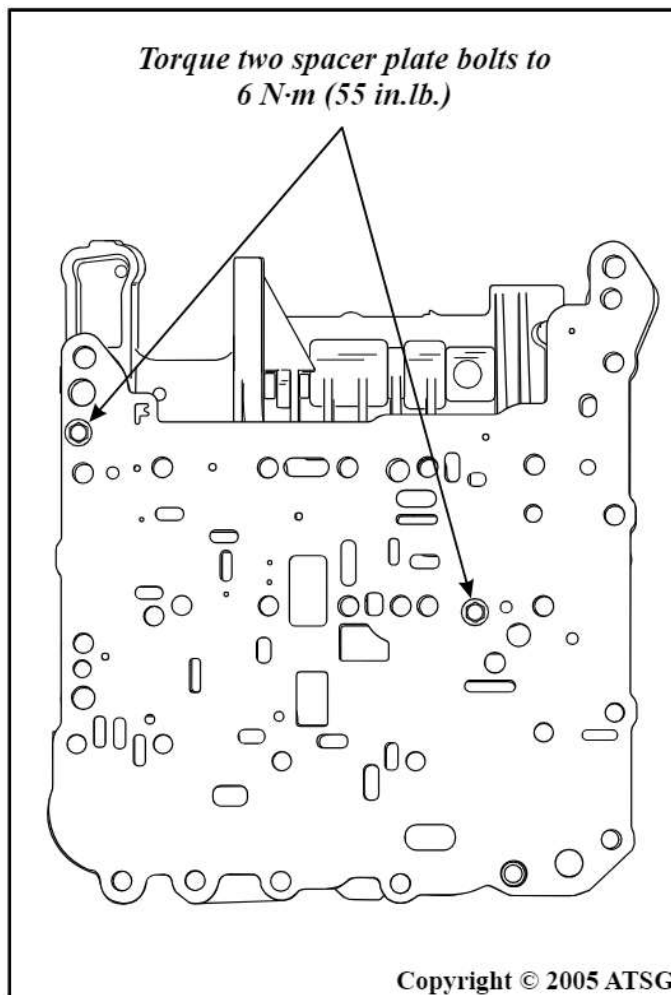

Figure 147
24. Install the main valve body spacer plate and bolts, as shown in Figure 147. Torque spacer plate bolts to 6 N·m (55 in.lb.).